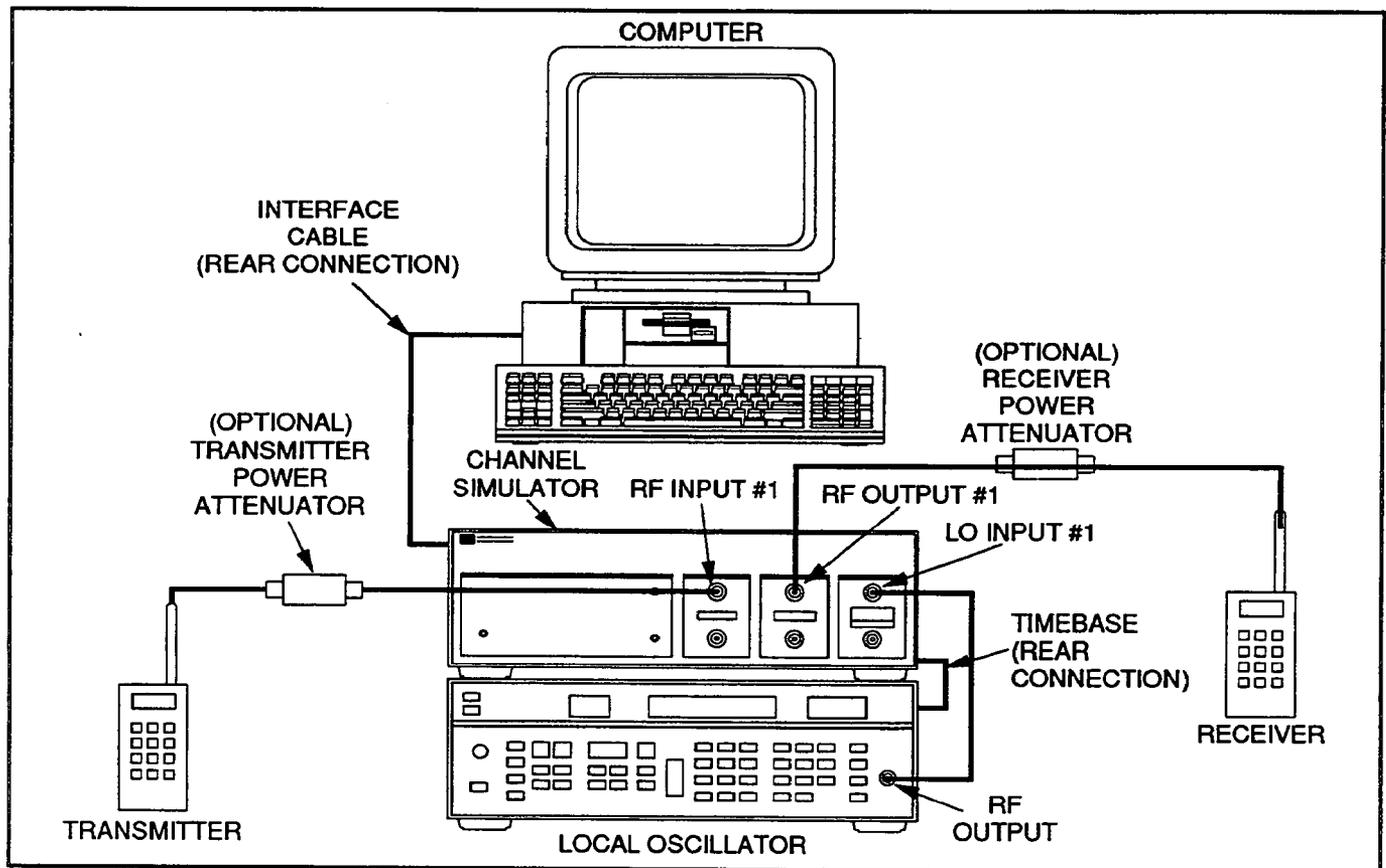

Figure 3-2. Simulation System Set-up
1. Connect the Transmitter and Receiver under test to the Simulation System as shown in Figure 3-2.
A single Transmitter/Receiver combination connected to Channel 1 is shown in Figure 3-2. A number of different configurations can be used depending on the number of Transmitters/Receivers being tested and instrument options.
- **Diversity Systems** (one transmitter/two receivers): Connect the Transmitter to both the Simulator RF INPUT CONNECTORS (1 and 2) using a power splitter (HP P/N 11636A). Connect the Local Oscillator as shown in Figure 3-2. Using a Type N cable, connect the Simulator rear panel AUX LO#1 OUTPUT to the front panel LO INPUT #2. Connect the Receivers to RF OUTPUT #1 and #2.
- **Co-Channel and Adjacent-Channel Testing** (two transmitters/one receiver): Connect the two Transmitters to both the Simulator RF INPUT CONNECTORS (1 and 2). Connect the Local Oscillator as shown in Figure 3-2. Using a Type N cable, connect the Simulator rear panel AUX LO#1 OUTPUT to the front panel LO INPUT #2. Connect the Receiver to RF OUTPUT #1 and #2 using a power splitter (HP P/N 11636A).